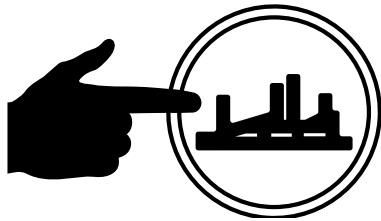

Figure 61. Contactor Open Button
2. Press the **contactor OPEN** button (Figure 61).